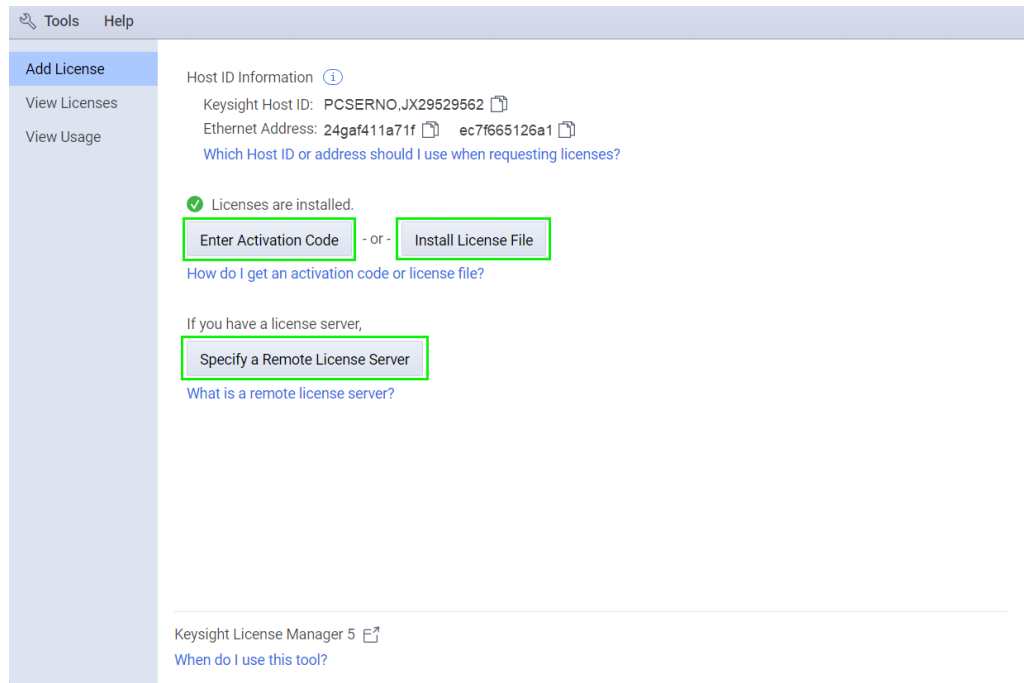

Figure 2 License installation options
- 3 In the **Add License** tab (Figure 2), use one of the options to install the license file.